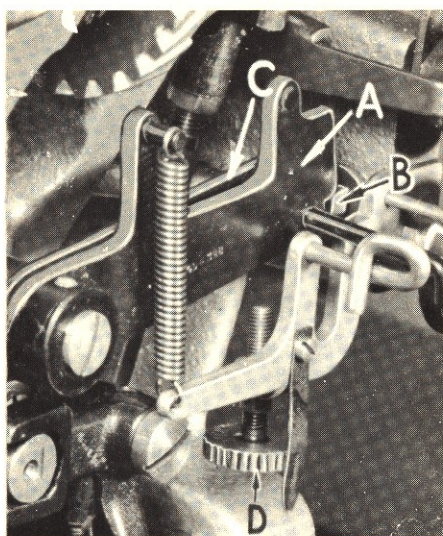
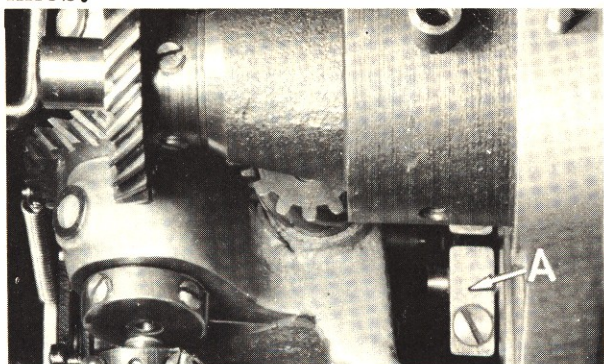
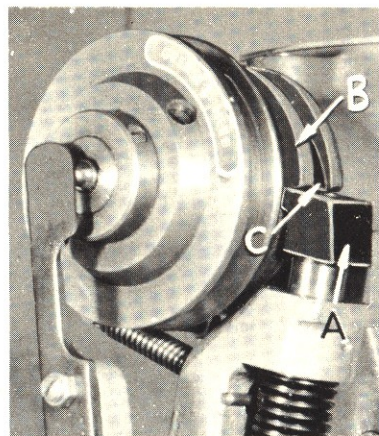

Fig. 15
Fig. 17
Fig. 16
Check the pull-off lever plunger (B, Fig. 15) to be sure it operates freely. Looking down into the head of the machine under the front main shaft bearing, loosen the clamp screw in driving crank (A, Fig. 17), and manually raise the pull-off lever
The pull-off lever (A, Fig. 15) is set correctly when it snaps off the plunger (B) as the stop motion plunger (A, Fig. 16) comes to an abrupt stop against the stop motion disc (B) when operating machine by hand.
(A, Fig. 15) and plunger operating lever (C). Then, carefully lower the pull-off lever (A) until it just drops off the point of the plunger (B). Then, carefully tighten clamp screw in driving crank (A, Fig. 17).
If too much thread tail shows on completed tack, turn pull-off lever control screw (D, Fig. 15) clockwise to reduce length of tail. If starting thread is too short, causing loss of stitches, turn the control screw counterclockwise until slight amount of tail shows.